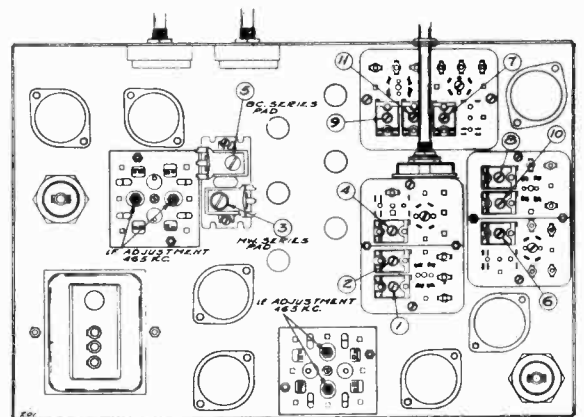

FIG. 1—BOTTOM VIEW SHOWING TRIMMERS
- (b) Re-set external oscillator to 1400 K.C., move dial pointer to 1400 K.C. and adjust oscillator (adjustment number 4), R.F. (adjustment number 6) and antenna (adjustment number 7) to resonance. See bottom view for location of these adjustments, Fig. 1.